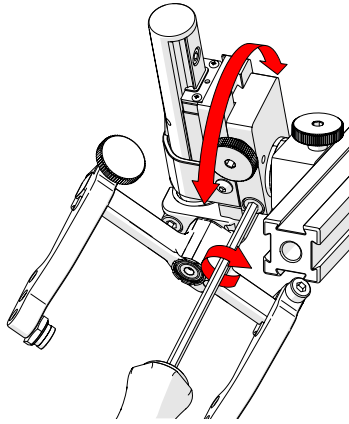

Fig. 73 - Rotate to position
4. Tighten the longitudinal adjustment screw (*Fig. 73*).